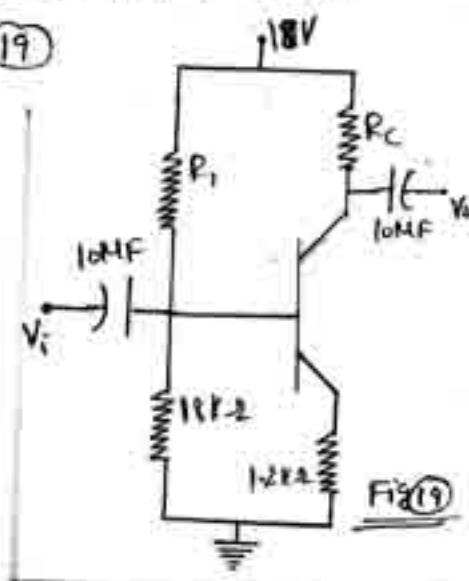

Fig 19
- Q) Given $I_{CO} = 2\text{mA}$ & $V_{CEO} = 10\text{V}$. determine R_1 & R_C of Potential divider circuit shown in Fig 19